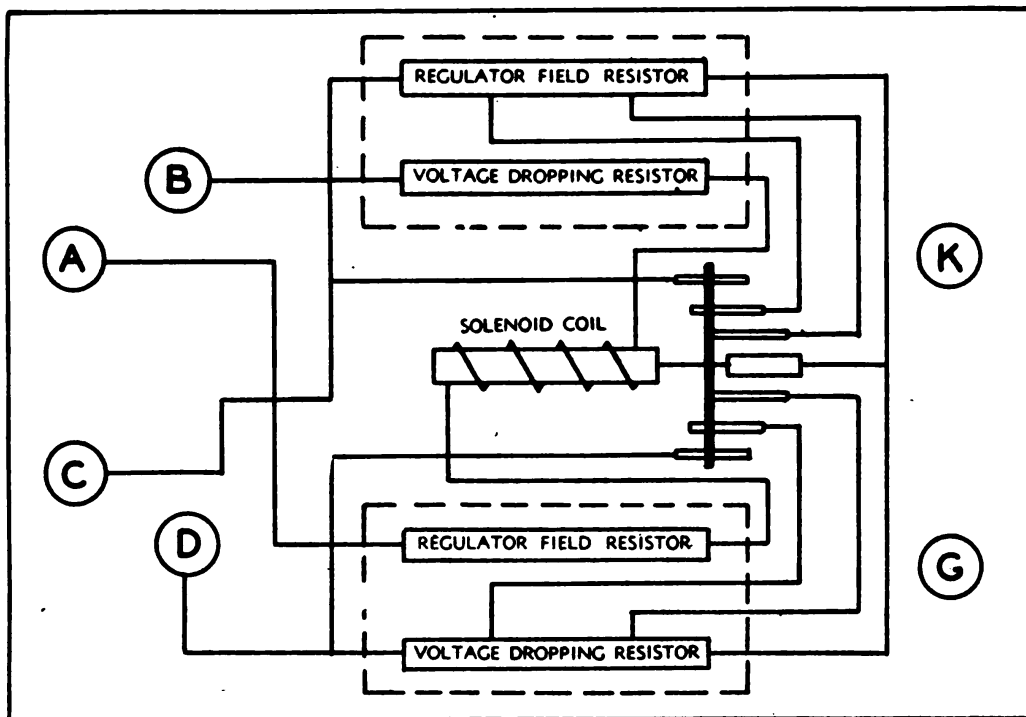

Figure 14a. Operation Diagram of Voltage Regulator
b. Theory of operation.—(1) Reference to wiring diagrams, (figs. 14a and 34) will assist in understanding the operation of the regulator.
(2) Since the solenoid is energized from the a.c. generator, any change in a.c. voltage will cause motion of the solenoid plunger. The resulting motion of the arm and contact roller changes the resistance in the exciter-shunt field circuit so as to restore the a.c. voltage to its original value.